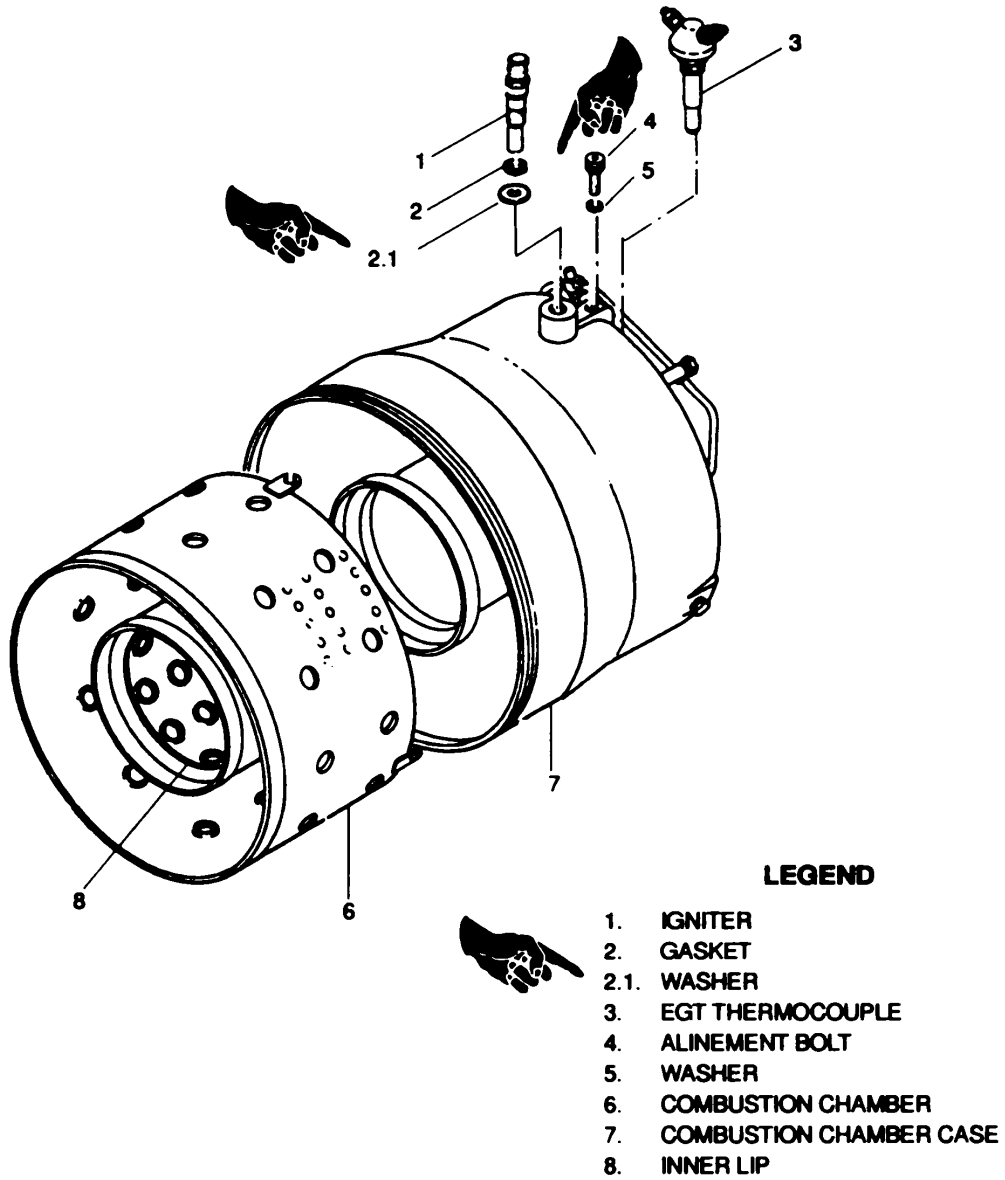
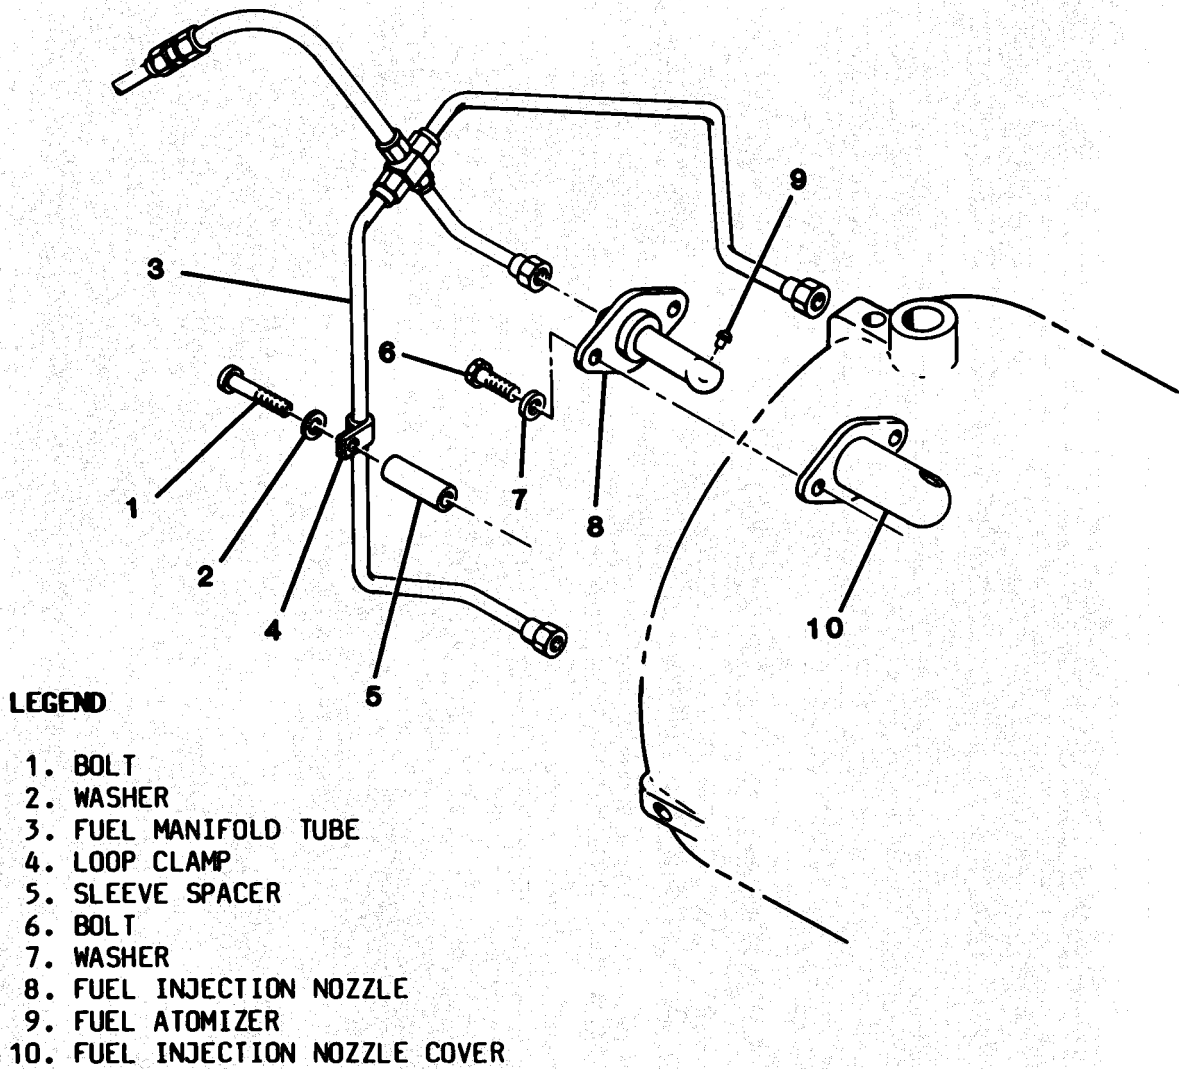

Figure 8-3. Combustor Housing Disassembly
Figure 8-4. Combustor Housing Disassembly - Fuel Injection Nozzle Removal
(1) Remove combustion chamber case assembly in accordance with paragraph 8-2a.
(2) Remove ignitor (1, Figure 8-3), gasket (2), and washer (2.1).
(3) Remove exhaust gas temperature (EGT) thermocouple (3) from combustion chamber case.
(4) Remove bolts (1, Figure 8-4), washers (2), fuel manifold tube (3), loop clamps, (4), and sleeve spacers (5).
(5) Remove bolts (6) and washers (7).
(6) Remove fuel injection nozzles (8), fuel atomizer (9), and fuel injection nozzle covers (10).
(7) Remove three alignment bolts (4, Figure 8-3) and washers (5).
(8) Remove combustion chamber (6) from combustion chamber case (7). If combustion chamber does not slip out easily, use puller on internal lip (8). Cautiously remove combustion chamber. Exercise care not to damage lip.
(9) Inspect combustion chamber case and combustion chamber in accordance with paragraph 8-2b and Table 8-1.
(b) Slide combustion chamber (6, Figure 8-3) into combustion chamber case (7).
(f) Coat threads of bolts (6, Figure 8-4) with anti-seize compound, MIL-A-907. Install nozzle covers (1 0) and fuel nozzles (8). Secure with washers (7) and bolts (6). Torque to 20 25 inch pounds (2.26 2.83 Nm) and lockwire bolts using MS20995-C20 and lockwire nuts using MS20995-C32.